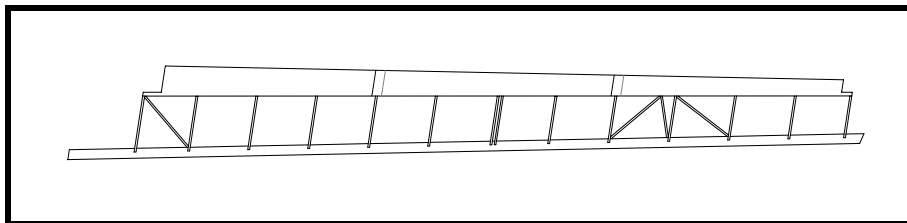

Figure 15
- ❑ Fit the upper leading edge skins. Soak the plywood in water for 24 hours, clamp in place to bend. See Figure 15. This will be done with 3 pieces of plywood—Sta. 2-6, 6-10 and 10-14.